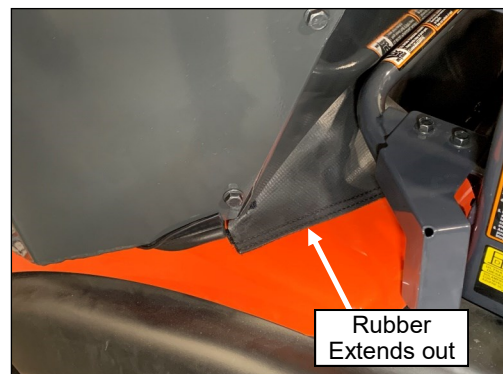

Fig. 10.5 (Filler Location)
- 10.5 See fig. 10.5. The back ends of the rubber filler should be pulled out under the cab so that they can be velcroed to the fenders behind the cab.